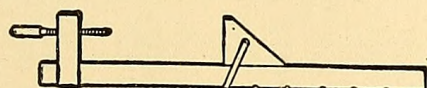

FIG. 41.— Cabinet-maker's Clamps.
**Cabinet-maker's Clamps** (Fig. 41) for holding wide glued-up pieces; but you can dispense with both of these by providing yourself with several